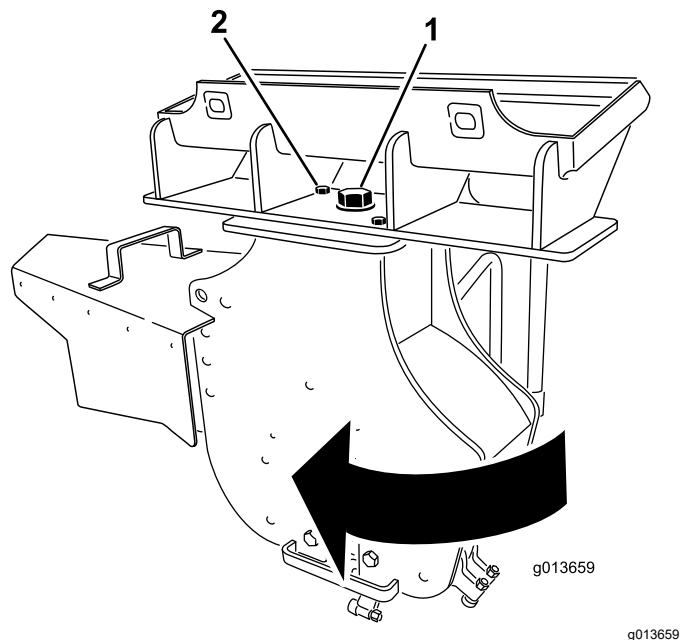

Figure 14
3. Loosen the large bolt on the top of the grinder (Figure 14).
4. Remove the front bolt and nut securing the grinder (Figure 14).
5. Swing the grinder 30 degrees clockwise (Figure 14).
6. Torque the large bolt on top of the grinder to 406 N·m (300 ft-lb) as shown in Figure 14.
7. Install the bolt and nut in the front hole and torque them to 101 N·m (75 ft-lb) as shown in Figure 14.
13. Loosen the large bolt on the top of the grinder (Figure 14).
14. Remove the front bolt and nut securing the grinder (Figure 14).
15. Swing the grinder 30 degrees counter-clockwise (Figure 14).
16. Torque the large bolt on top of the grinder to 406 N·m (300 ft-lb) as shown in Figure 14.
17. Install the bolt and nut in the front hole and torque them to 101 N·m (75 ft-lb) as shown in Figure 14.